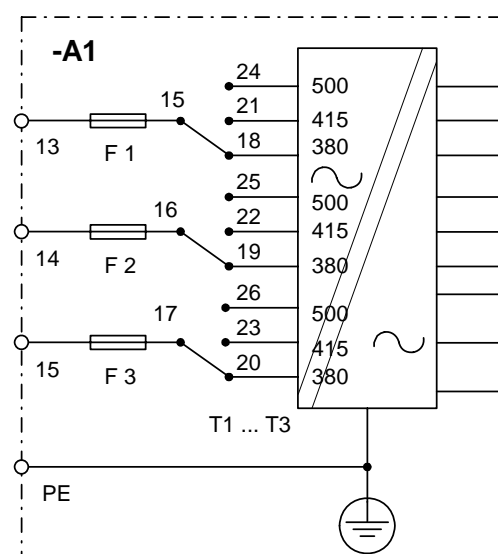

Fig. 32: Electronics supply, mains connection
If Minisemi D 380 (415)/ ... units are connected to 415 V, matching is necessary by reconnecting the jumpers stated below on the DC interface board. See Fig. 32 and Fig. 6.